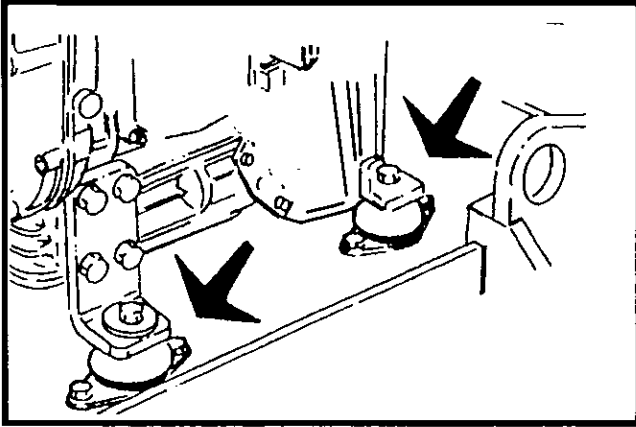
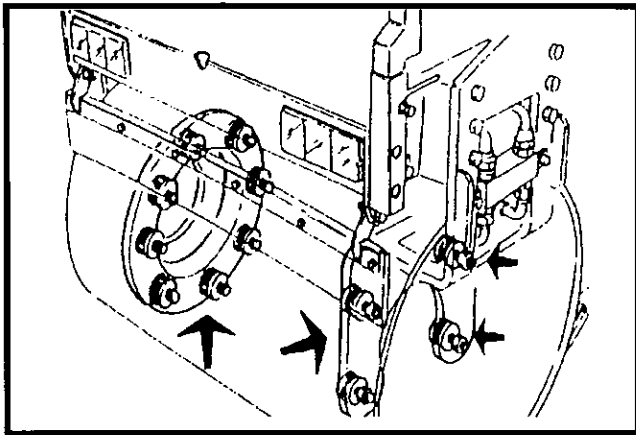

Figure 5-2 Engine Shock Mounts
Figure 5-3 Drum Shock Mounts
1. Check all engine shock mounts ( Figure 5-2) and drum shock mounts (Figure 5-3), periodically for looseness or deterioration.